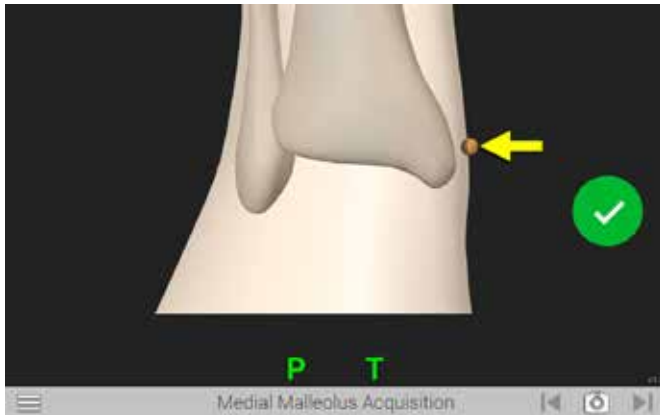
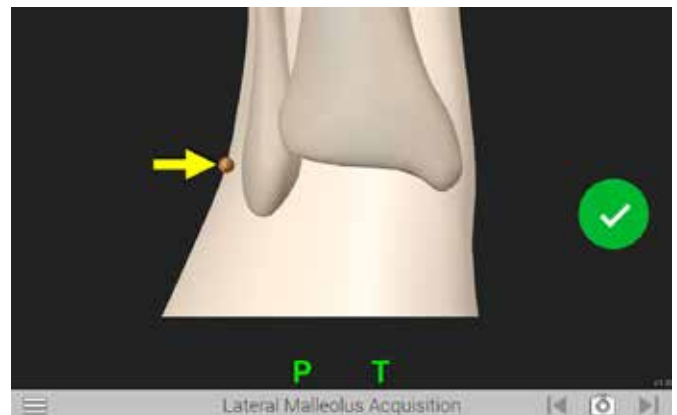

Figure 32
Figure 33
Advance to the Medial Malleolus Acquisition screen (Figure 32). Position the tip of the Probe Tracker (P) on the Medial Malleolus and press the Forward button to register this point. The system automatically advances to the Lateral Malleolus Acquisition screen (Figure 33). Repeat to acquire point for Lateral Malleolus Acquisition.